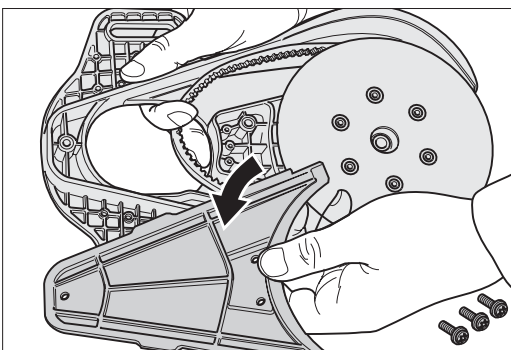

Fig. 33 Remove the attachment cover.
- 6 Use the universal spanner to remove the fixing screws of the attachment cover and remove it from the attachment (Fig. 33).